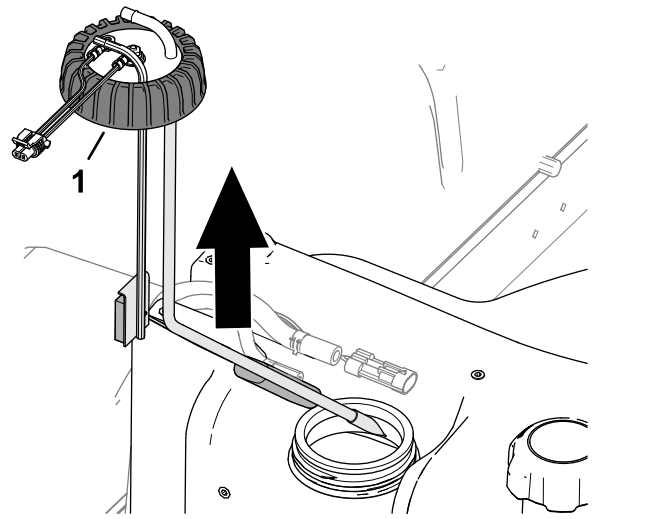

Figure 126
5. Loosen the fuel-sender cap (Figure 126).